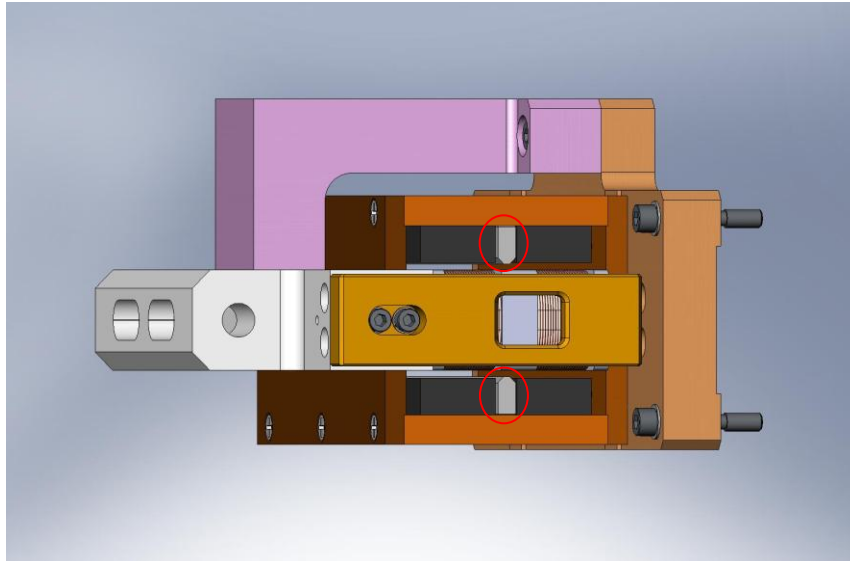

Figure 3.27. Actuator Stops installed. These help prevent “crashes” of Bobbin into magnets during HAM ISI operation.
- Slide (2) **Actuator Stops** (D070534) into **Field Assembly**, between rows of magnets as shown in Figure 3.27. Start hardware, snug, and torque to final spec.